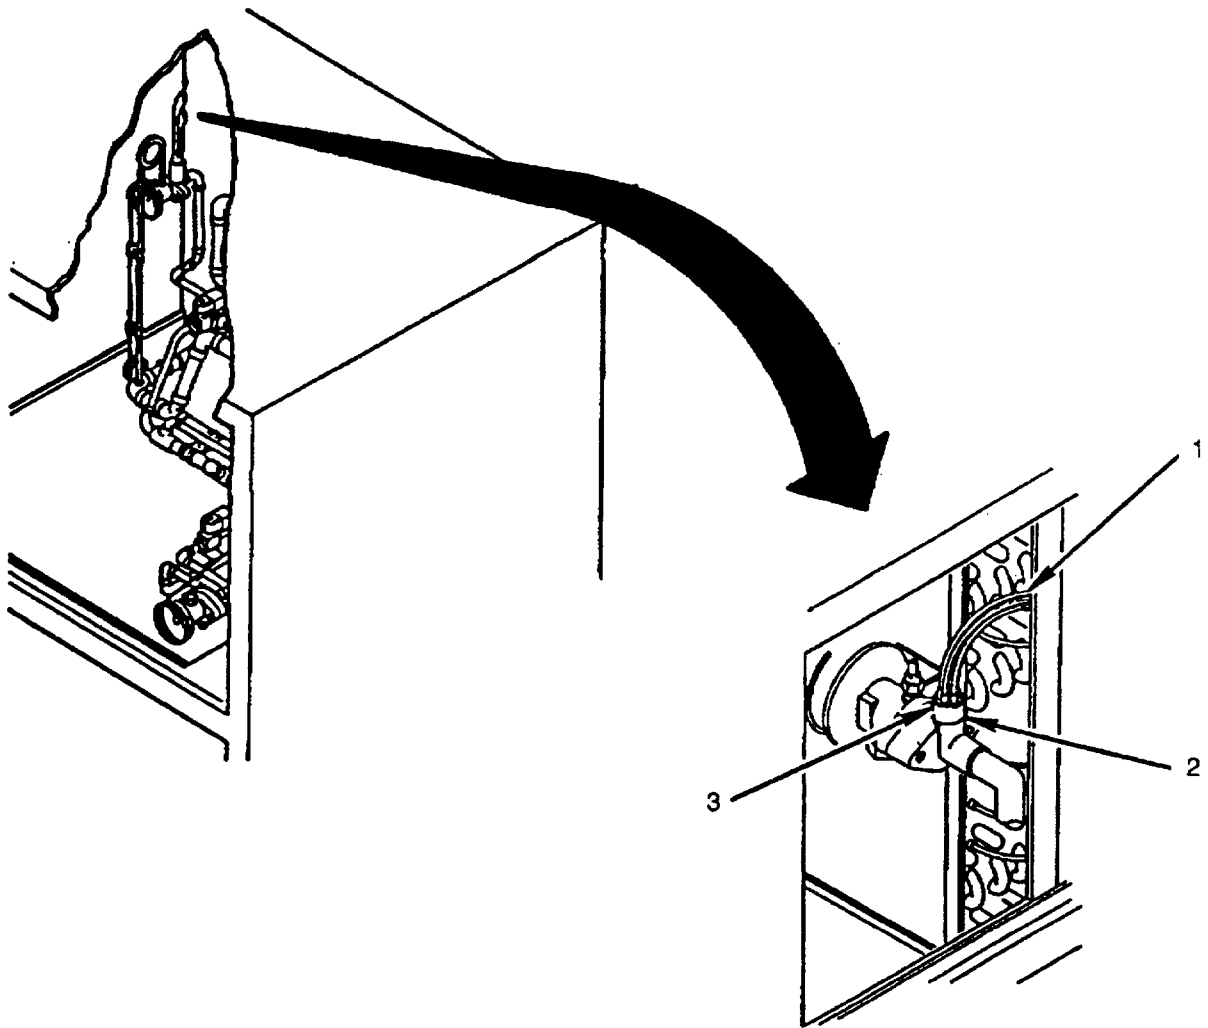

Figure 6-13. Distributor
2. Cut distributor lines (1) to coil (see Figure 6-13).
3. Remove distributor (3).